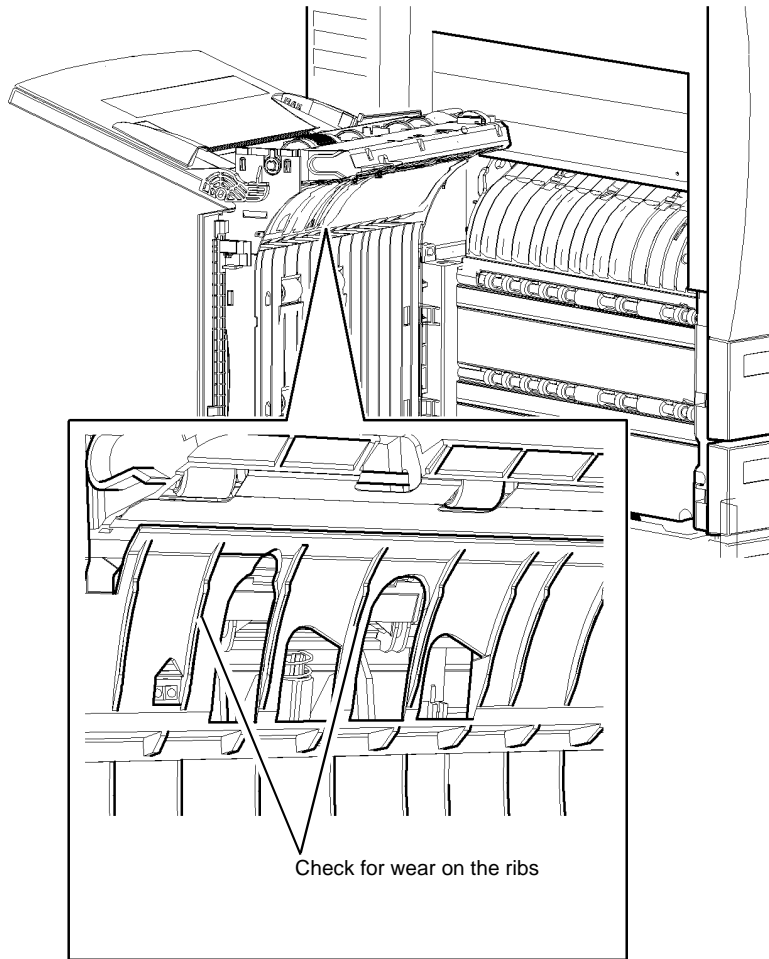

Figure 2 Left hand door
- Open the left hand door and check for wear on the ribs, Figure 2. If necessary install a new bypass tray and left hand door assembly, PL 7.30 Item 1.